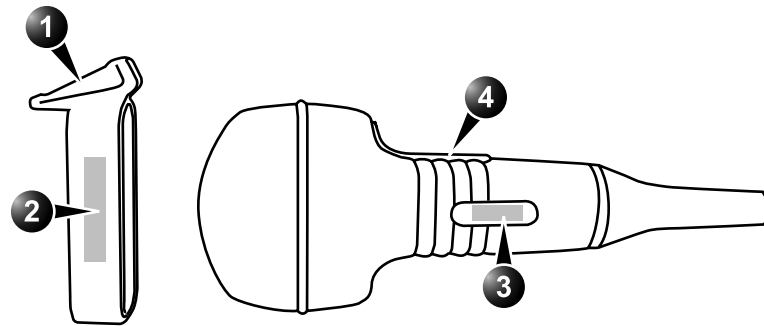

Figure 10-7: Probe/bracket alignment
2. Orient the bracket so that the needle clip attachment is on the same side as the probe orientation mark (notch), see Figure 10-7.